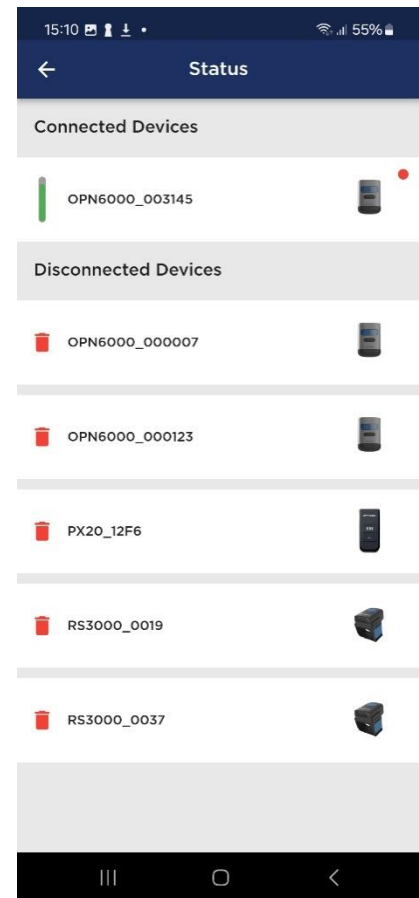

Figure 11-1: The *Manage Devices* page where the OPN6000\_003145 has an available update, indicated by the red notification icon.
- In the *Connected Devices* list, click on the device you wish to update. Devices with an available update will be marked with a red notification icon, as shown in Figure 11-1.